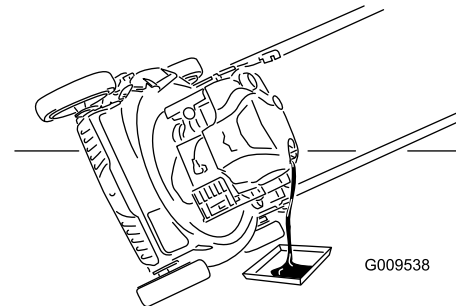

Figure 25
7. Tip the machine onto its side, with the oil-fill tube down, to drain the used oil through the oil-fill tube into the oil-drain pan (Figure 25).